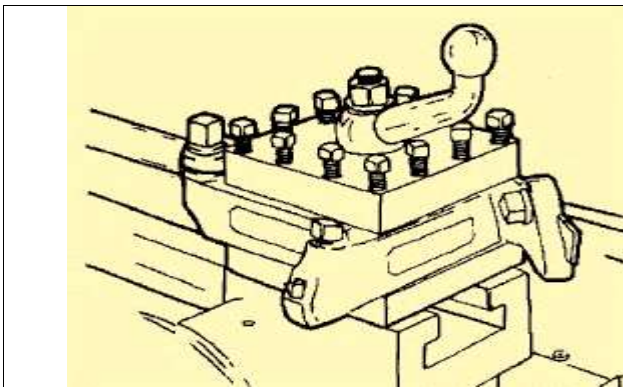

Figure 7-16. Turret tool post.
**The Turret Tool Post:** Is a swiveling block that can hold many different tool bits or tool holders. Each cutting tool can quickly be swiveled into cutting position and clamped into place using a quick clamping handle. The turret tool post is used mainly for high-speed production operations. (Figure 7-16).